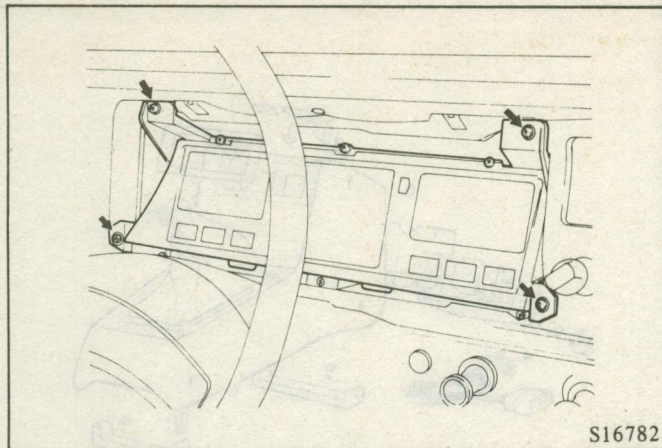

Fig. 87 Removing Meter Case
(3) Remove mounting screws located at four corners of the meter case. (Fig. 87)